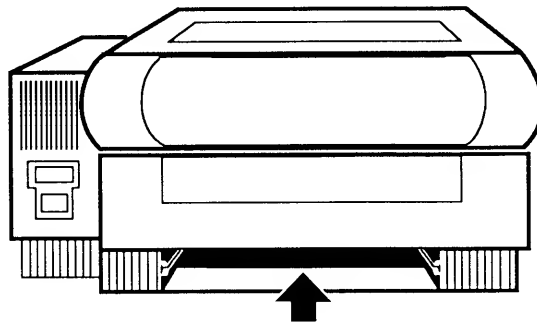

Figure 6-2 Controller-I/O Board Compartment
2. Hold the controller-I/O board by the metal I/O panel at the back of the board and by the side of the board. Carefully slide the board into its compartment (**Figure 6-2**) at the bottom of the printer. The opening is on the opposite side of the printer from the paper cassette tray.